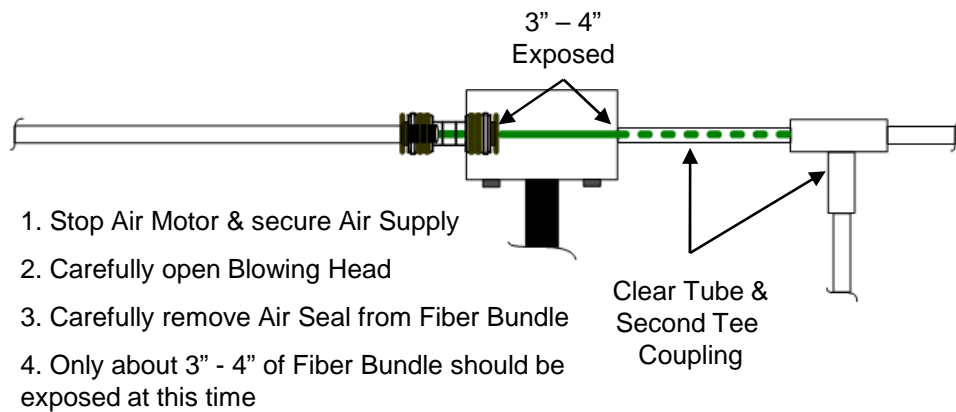

Figure 7C
9.13 Carefully remove Fiber Bundle Air Seal from fiber bundle. Approximately 3" - 4" of fiber bundle will be exposed. **See Fig. 7C.**